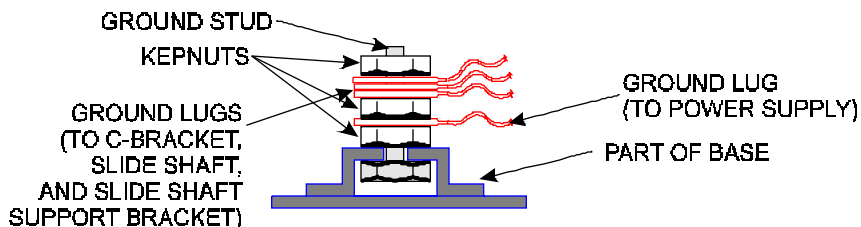

Figure 5-17. Ground Stud With Ground Lugs Attached.
13. Disconnect the ground lug from the ground stud. See Figure 5-17.
8. Connect the ground lug to the grounding stud on the Base. See Figure 5-17.